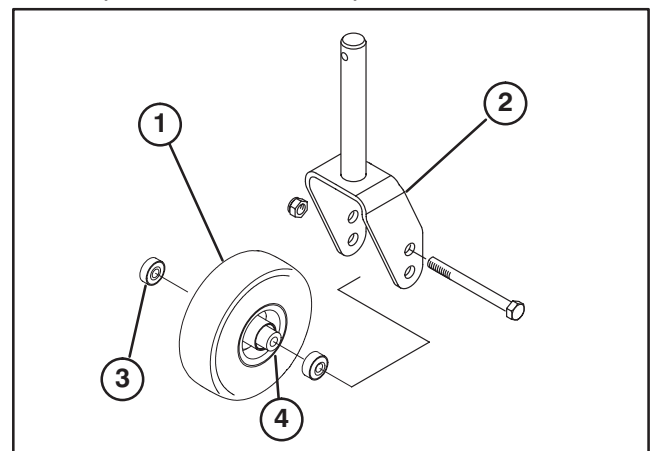
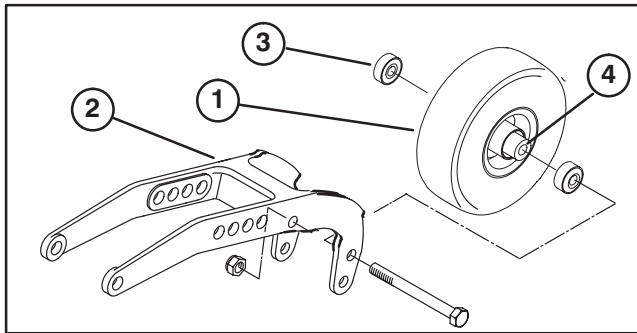

Figure 28
Figure 29
SERVICING CASTOR WHEELS AND BEARINGS (Fig. 28–29)
1. Remove locknut from capscrew holding castor wheel assembly between front castor fork (Fig. 28) or rear castor pivot arm (Fig. 29) Grasp castor wheel and slide capscrew out of fork or pivot arm.